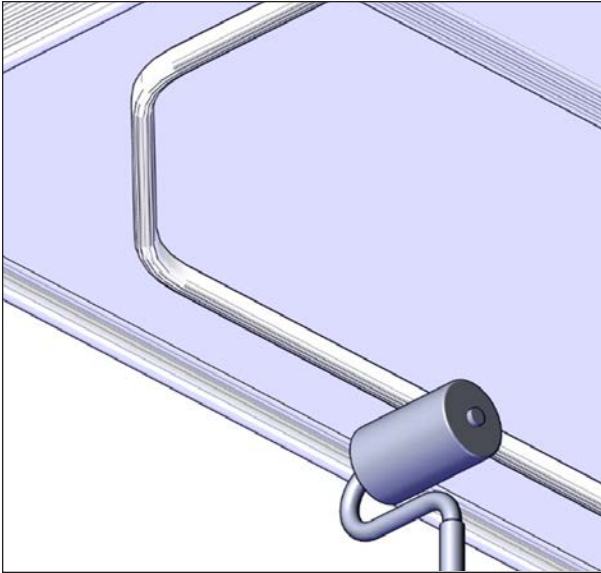

FIGURE 106: APPLY PRESSURE WITH ROLLER
12. Once satisfied that the seal is released, lift up the cover 36" (91 cm) high. Apply a minimal pressure of 15 psi (103 kPa) on the seal with the roller as shown in Figure 106 to properly bond the adhesive to the underside of the cover.